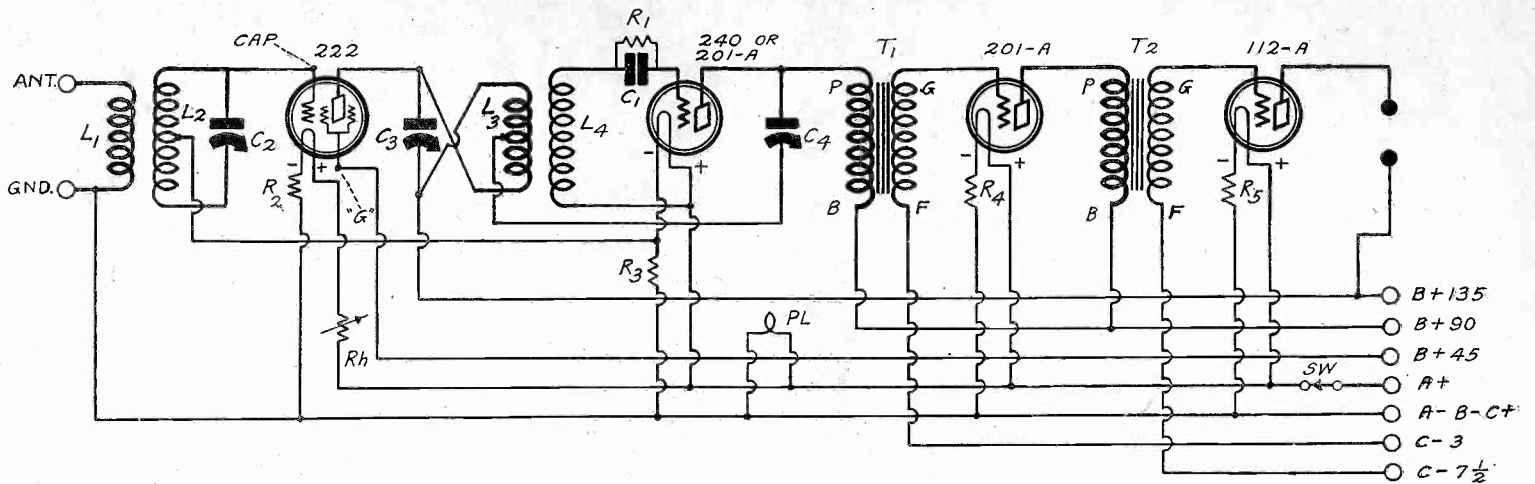

FIG. 726. THE CIRCUIT DIAGRAM OF THE UNIVERSAL SCREEN GRID DIAMOND, A VERY SENSITIVE AND SELECTIVE RECEIVER. CIRCUIT REQUESTED BY PA TRICK MAHONEY.
(1)—Fig. 726 gives a diagram of a circuit such as you request. It is that of the Screen Grid Universal, which has given very good results. It was described in the December 1st, 8th and 15th issues of RADIO WORLD.